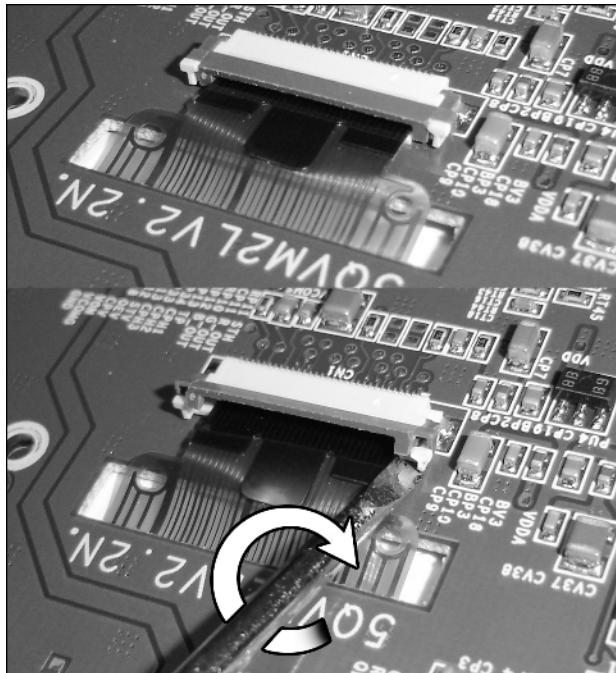

FIGURE 4-23: Unclamping the ribbon cable.
6. Look for the ribbon cable clamp on the back of the board, as seen in Figure 4-23. Place one edge of a thin flat-head screwdriver under the brown tab on one side. Slowly twist your screwdriver so that the edge of the screwdriver head lifts up the brown tab. The clamp will lift off.